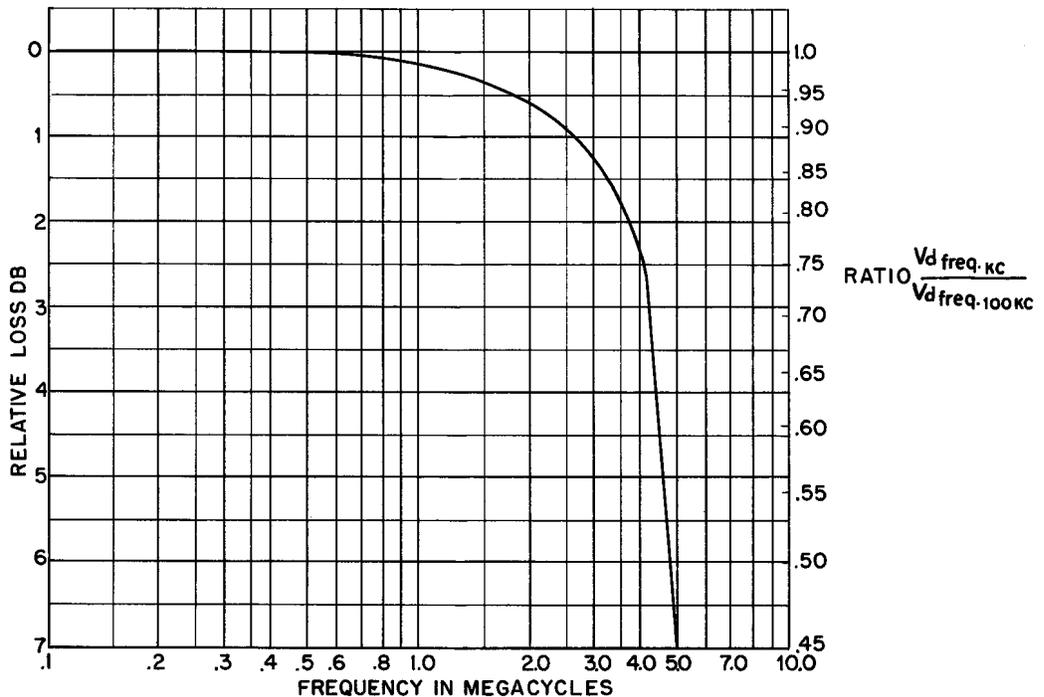

Fig. 5 - Nominal Frequency Response Curve for an Unmodified Oscilloscope Amplifier
4.22 Fig. 5 illustrates a nominal frequency characteristic curve obtained by the method described above for an oscilloscope amplifier
4.23 In the event that any great deviation from the nominal objective (Fig. 5) persists after the above adjustments have been made, the case should be referred through the proper channels for consideration.